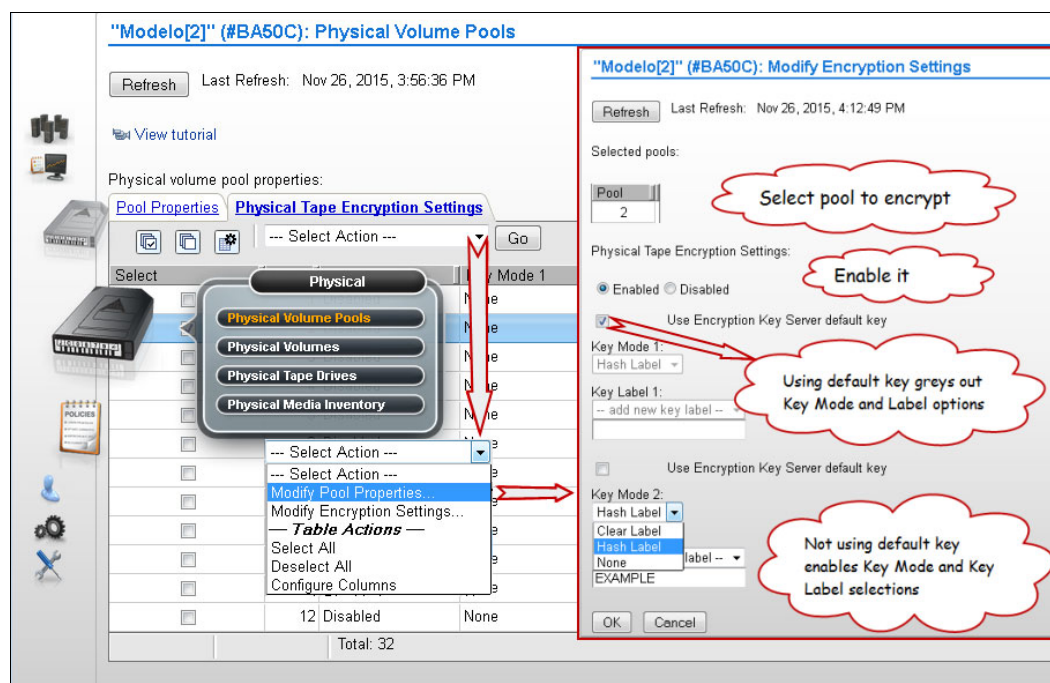

Figure 11-21 Modify encryption settings parameters
To modify encryption settings for one or more physical volume pools, complete the following steps (Figure 11-21 on page 583 shows this sequence). For more information, see “Physical Volume Pools” on page 454:
5. Click **Go** to open the Modify Encryption Settings window (see Figure 11-21).